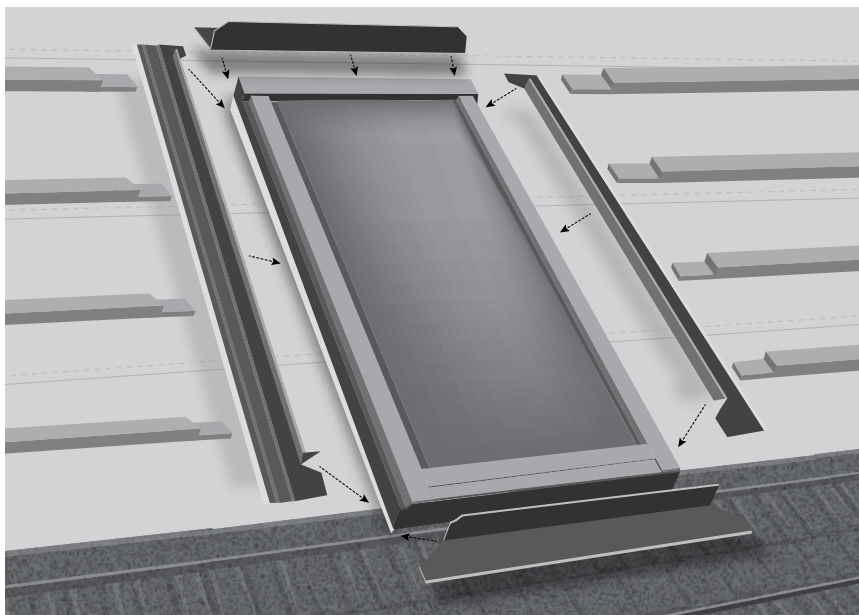

FIG. 09.B Skylight
3. Cut the last panel transitioning into the chimney, skylight or dormer both vertically and horizontally to fit lower left corner condition with a 40mm turn up against the side wall and head wall. *(Fig. 09.B)*
4. Horizontally cut and install the next panel(s) along the headwall with a 40mm turn up. Last panel to be cut both vertically and horizontally to fit lower right corner condition with a 40mm turn up against the head wall and side wall. *(Fig. 09.B)*